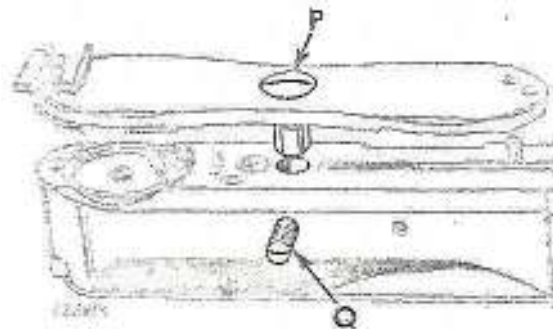

Fig. 33. Correct Position of Hinge Pin in Needle Plate
2. Loosen screw **Q**, **Fig. 33** and, by lifting upward, remove needle plate and hinge pin **P**.